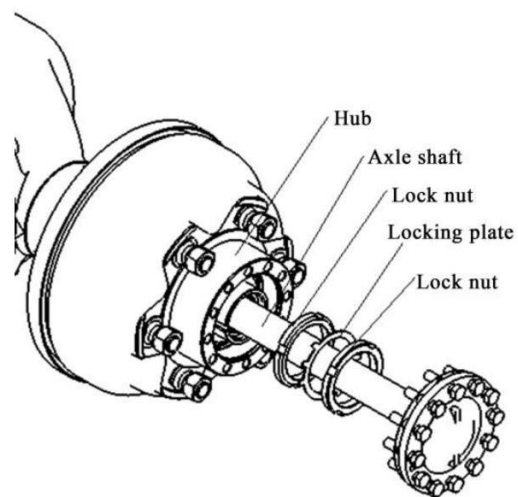

Fig. 1-4 Filling Grease
(1) Fill the hub with 100cc grease and install it on the axle housing. See Fig. 1-4.
(2) Tighten the inner lock nut with a torque of about 1kg.m and then return it for 1/8 turn.
(3) Hang the spring scale on the bolt to measure the initial torque of the hub, and slowly lock the nut when the specified value is reached. The initial torque: 5-15 kg.m.